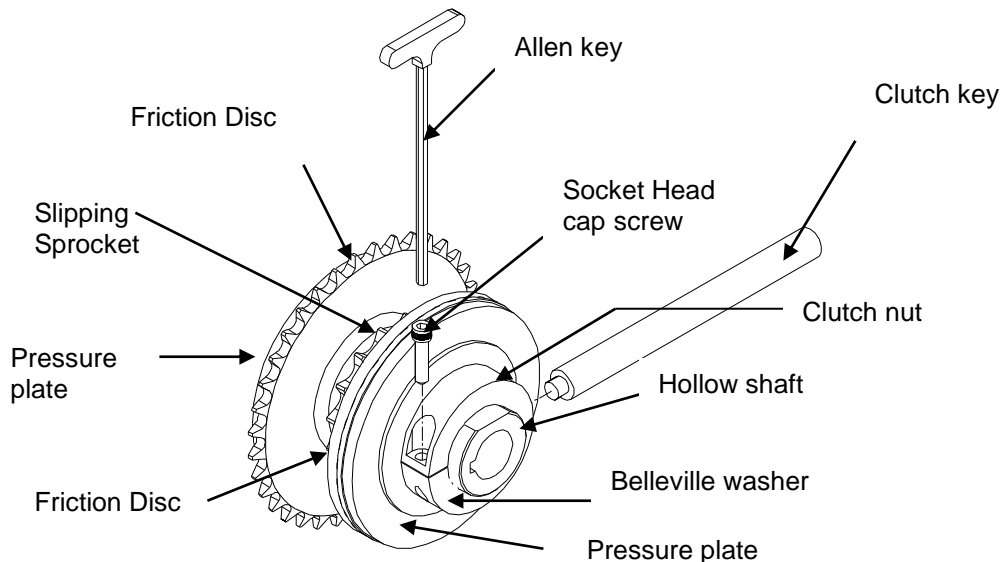

Figure 13 Clutch adjustment
1. Loosen clutch set screws (Figure 13)